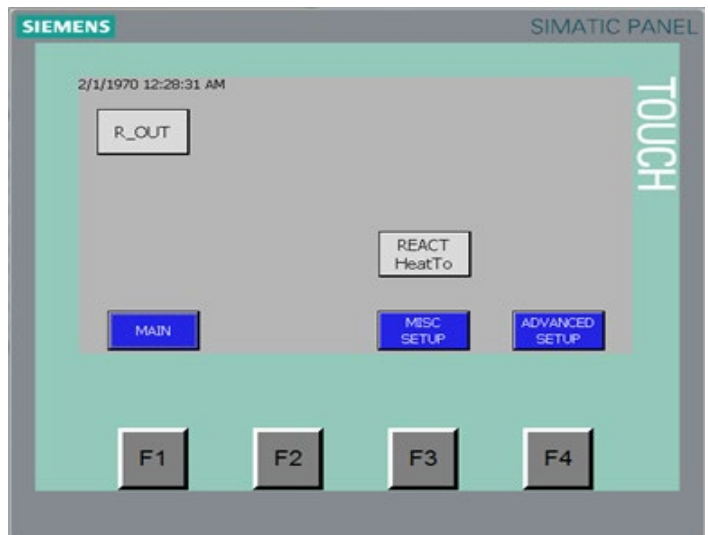

Figure 1.1
- 6.5 Control Group Selection 1* Pressing PROCESS SETUP will navigate to this screen (figure 1.1). The Siemens KTP400 Display may prompt the operator for Username and Password, The Control Group Selection screen displays the various system loops available on the equipment.